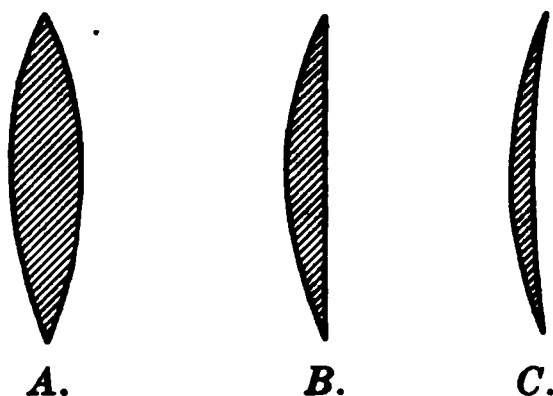
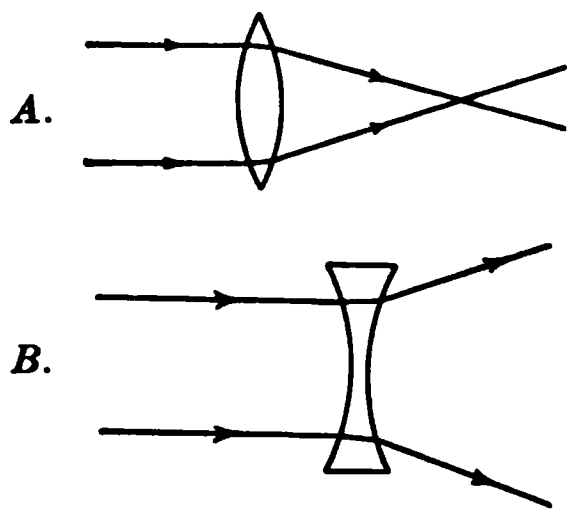
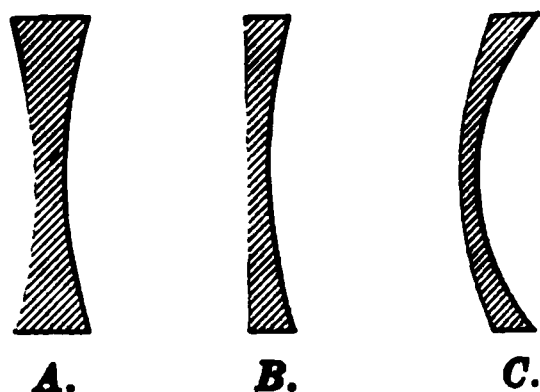

FIG. 310. — Converging lenses. A. Double-convex. B. Plano-convex. C. Concavo-convex.
FIG. 312. — A. Effect of convex lenses. B. Effect of concave lenses.
FIG. 311. — Diverging lenses. A. Double-concave. B. Plano-concave. C. Convexo-concave.
of such lenses are shown in Fig. 310; (2) concave, or diverging lenses, which are thinner at the middle than at the edges. Fig. 311 shows three types of concave lenses. Convex lenses cause parallel rays of light to converge to a point or focus, Fig. 312 A. If rays of light are already converging, their convergence is increased, so that they focus more quickly. When diverging pencils of light pass through a convex lens, their divergence is decreased.
Concave lenses produce the opposite effect. See Fig. 312 B. Parallel rays are made diverging; converging